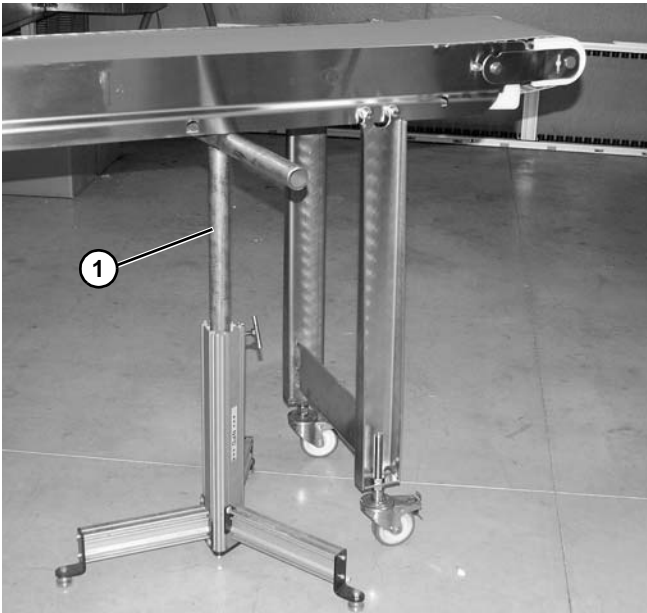

Figure 34
3. Place temporary support stands (Figure 34, item 1) at both ends of the conveyor. Place an additional support stand under the drive motor, if equipped. See WARNING.